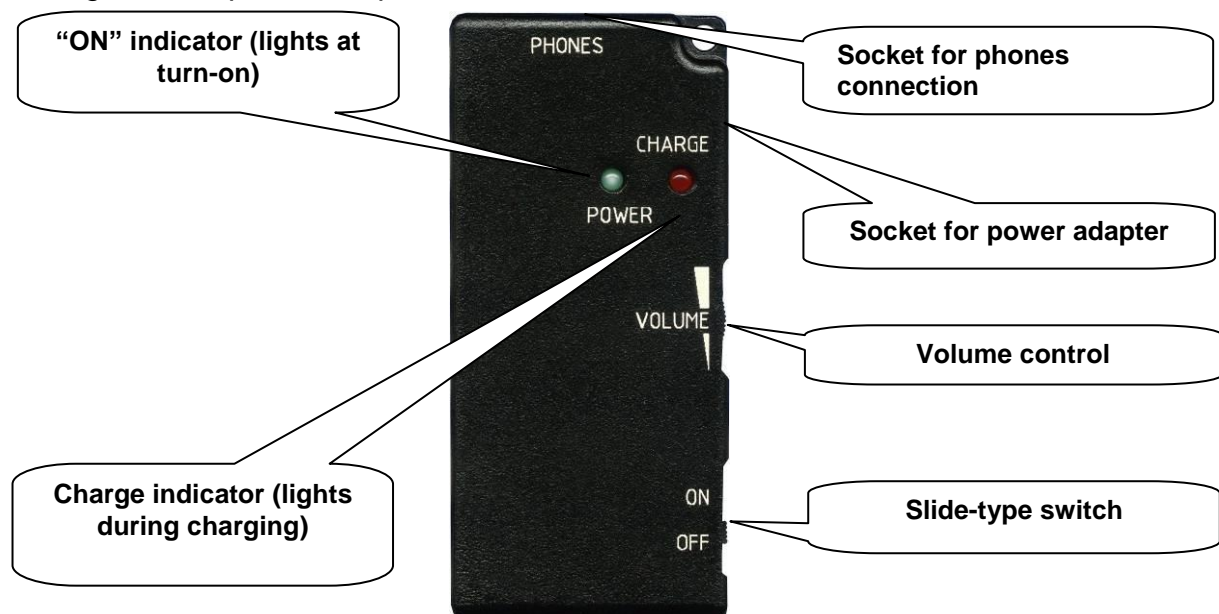

Fig. 7
**4.6.** Wireless telephones consist of a receiving device and earphones. Appearance of the receiving device and position of control units are shown in Fig.7